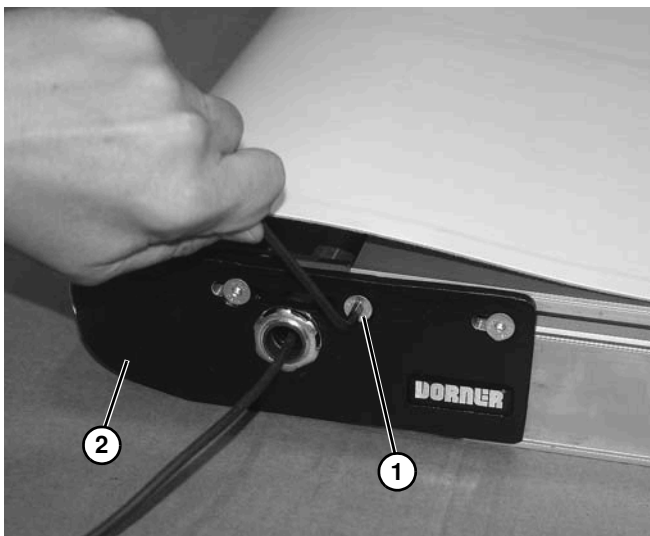

Figure 97
2. Remove screw (**Figure 97, item 1**) from idrive head plate (**Figure 97, item 2**) on each side of conveyor.